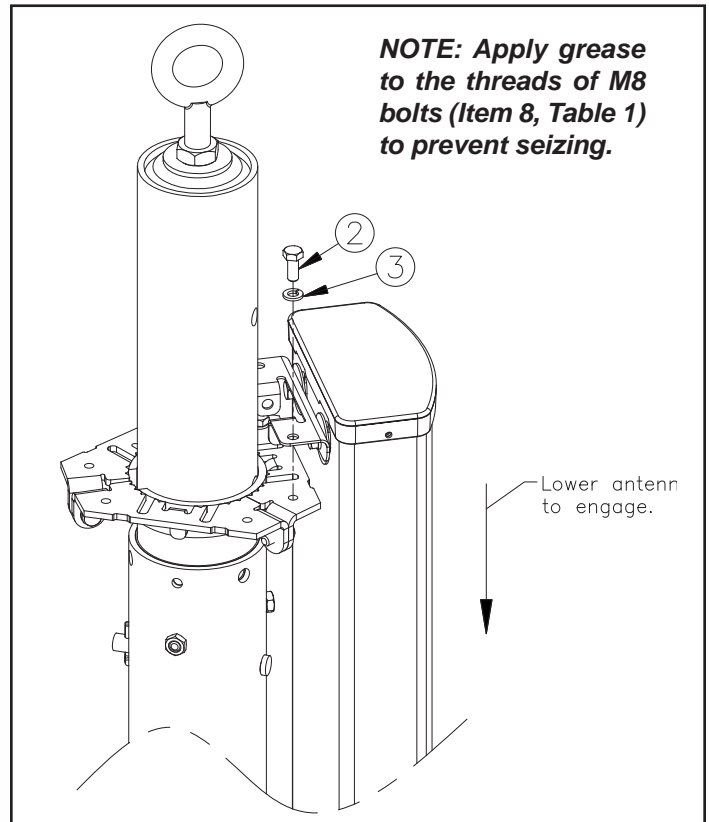

Figure 6. Attaching Antenna to Top Bracket Assembly.
1. Insert the tabs from the antenna bracket into the slots on the top UMWD-TREEKIT bracket assembly. Secure the top antenna bracket in place using M8 hardware provided (Figure 6 and Table 1).
5. Secure the antennas to the bottom UMWD-TREEKIT bracket assembly using the M8 hardware provided (Figure 6 and Table 1)